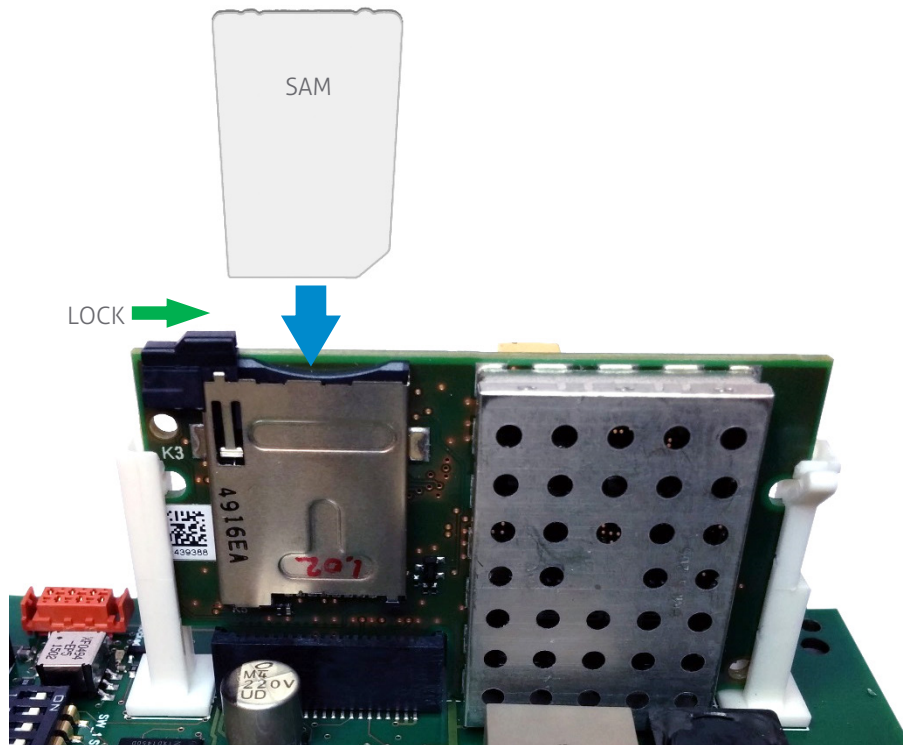

Figure 6: Installing the Security Key Pack (SAM)
1. Align the notch as indicated in Figure 6 and keep the metal contacts backwards.